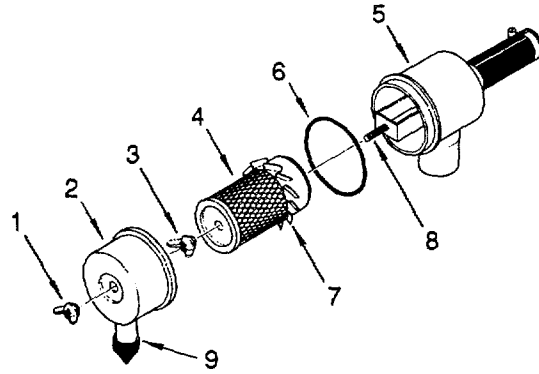

Figure 4-3. Engine Air Filter Element Replacement
4.9.3 Replace Engine Air Filter Element. (Refer to figure 4-3.)